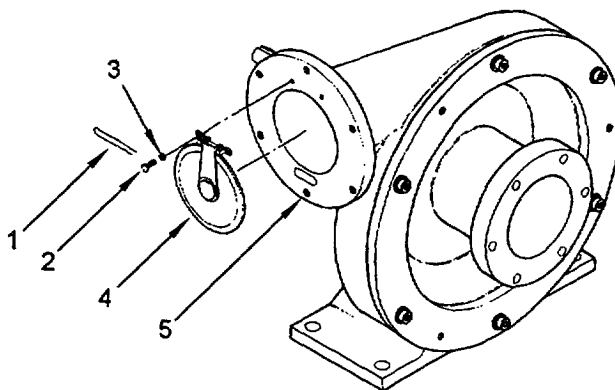

Figure 4-11. Fuel Transfer Pump Discharge Valve Replacement
4.12.3 Replace Fuel Transfer Pump Discharge Valve. (Refer to figure 4-11.)